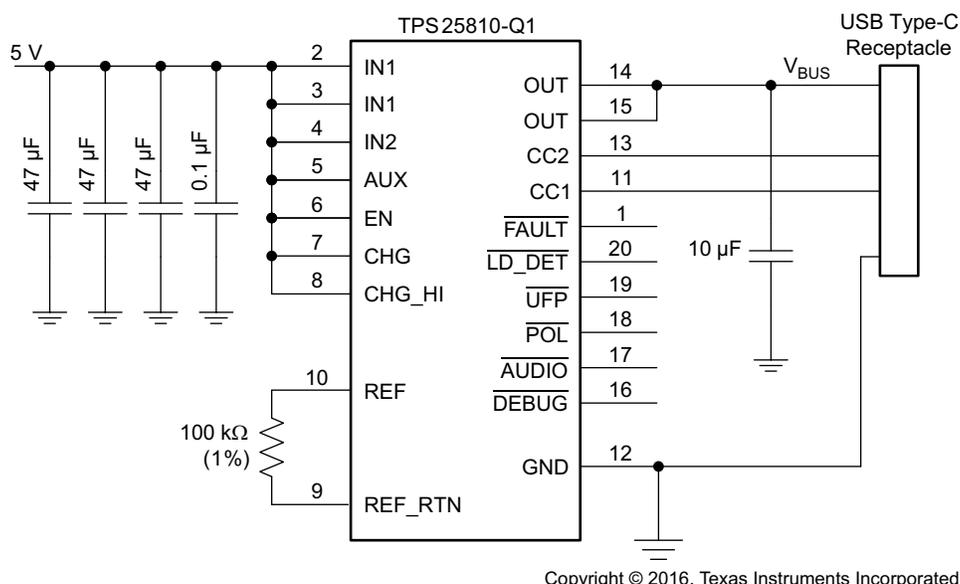

Figure 20. Type-C DFP Port Implementation Without BC 1.2 Support
Figure 20 shows a minimal Type-C DFP implementation capable of supporting 5-V and 3-A charging.
The TPS25810-Q1 device supports up to three different input voltages, based on the application. In the simplest implementation, all input pins are tied to a single voltage source set to 5 V, as shown in Figure 20. However, it is recommended to set a slightly higher (100 mV to 200 mV) input voltage, when possible, to compensate for IR loss from the source to the Type-C connector.
- Depending on the maximum current-level advertisement supported by the Type-C port in the system, set the CHG and CHG\_HI levels accordingly. Advertisement of 3 A is shown in Figure 20.